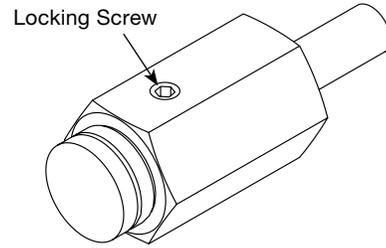

Figure 22 Loosening the Locking Screw
1. Loosen the locking screw, using the supplied hex key. See Figure 22.